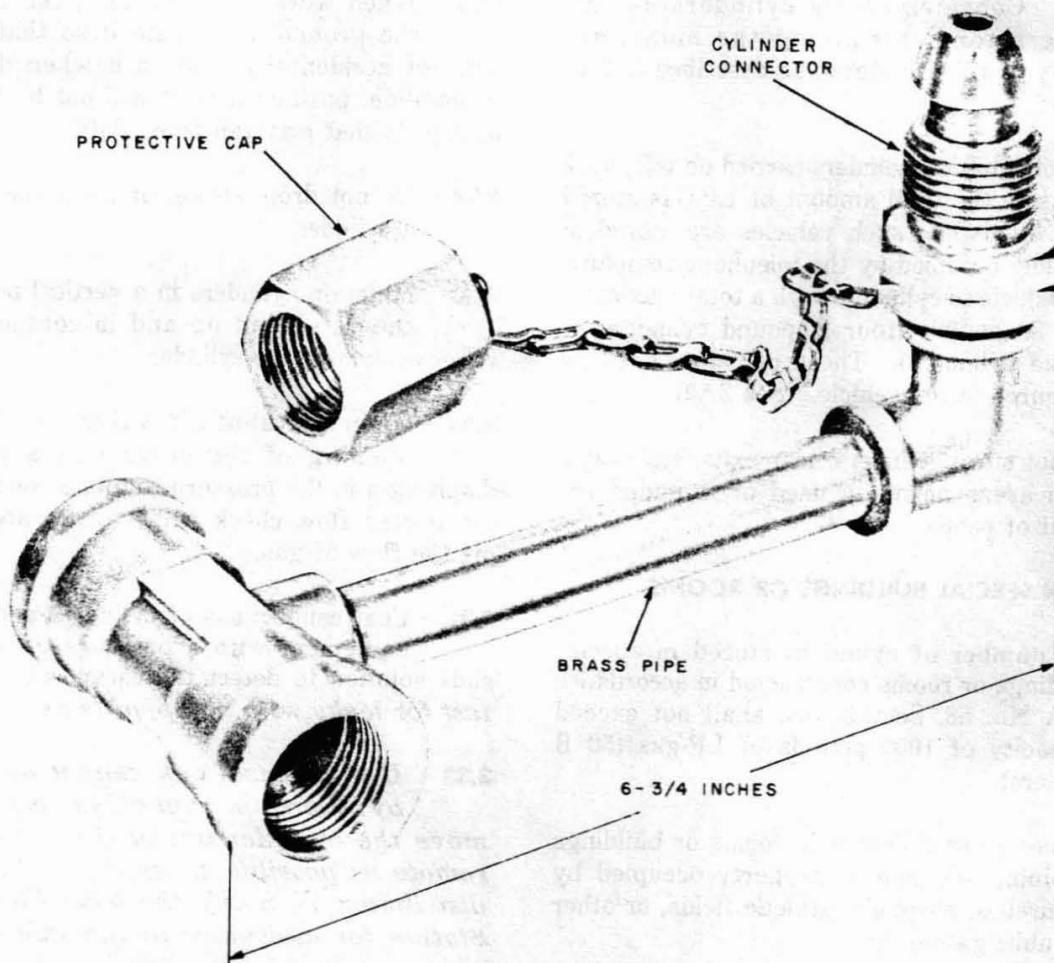

Fig. 3—C Propane Manifold
5.02 The C Propane Manifold (Fig. 3) consists of a cylinder connection fitting joined by brass pipe to a T-fitting having two internally threaded outlets which accommodate the fittings of the items to be connected.